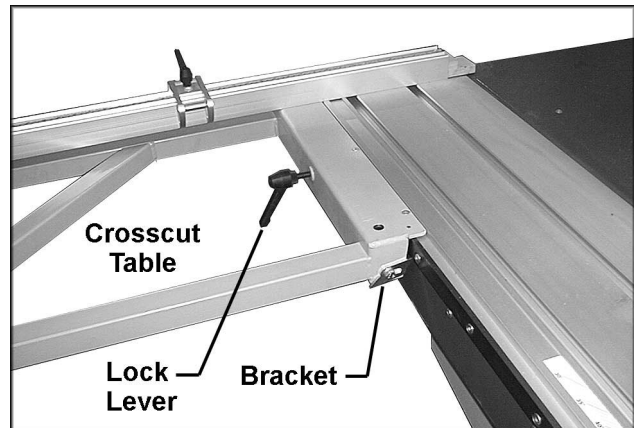

FIGURE 9
1. Slide the crosscut table (Fig. 9) onto the sliding table from the left end. The rod protruding up from the support arm should slip into the hole on the bottom of the crosscut table.